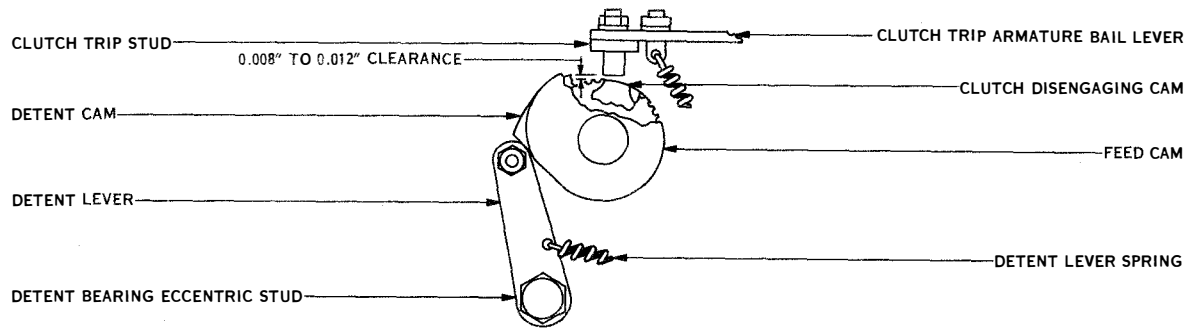

Figure 7-70. Feed-out Clutch Detent Eccentric and Trip Armature Bail Lever
(92) **FEED-OUT CLUTCH DETENT ECCENTRIC.** (See figure 7-70.)—The concave portion on the detent cam should be engaged by the detent roller when
(93) **CLUTCH TRIP ARMATURE BAIL LEVER.** (See figure 7-70.)—There should be 0.008- to 0.012-inch clearance between the clutch trip stud and the top of the highest part of the clutch disengaging cam on the driven clutch member. To check, pull the armature down to the magnet cores and check the clearance. To adjust, remove the magnet coils and add or remove shims between the bottom of the coils and mounting plate. Replace the coils and recheck adjustment.